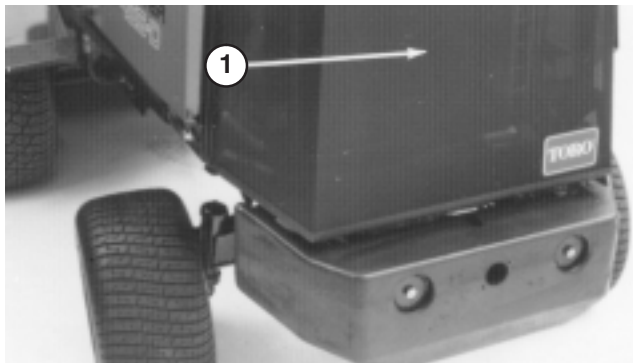

Figure 32
ENGINE COOLING SYSTEM (Fig. 32–33)
B. Unscrew knobs and remove rear screen (Fig. 32). Clean screen thoroughly.